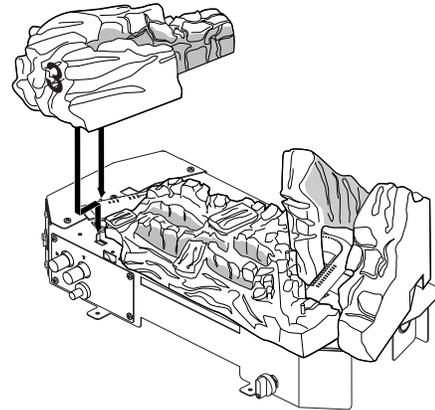

Figure 25 - Installing Log #3 (Model VGX30NT Shown)
3. Place log #3 on the left side of the base. It will wrap around the front end of the back burner and onto two tabs on the base (see Figure 25).